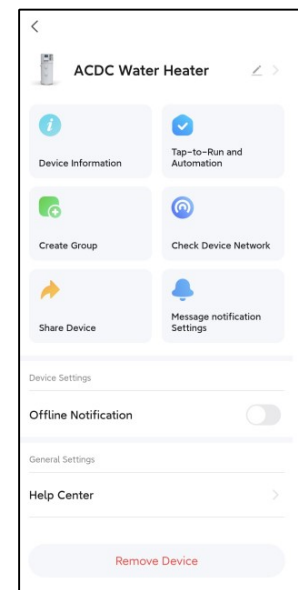

Fig.20 Device setting interface
- You can change the device's name, set the offline notification, share devices and remove the device, etc. (Fig.20).